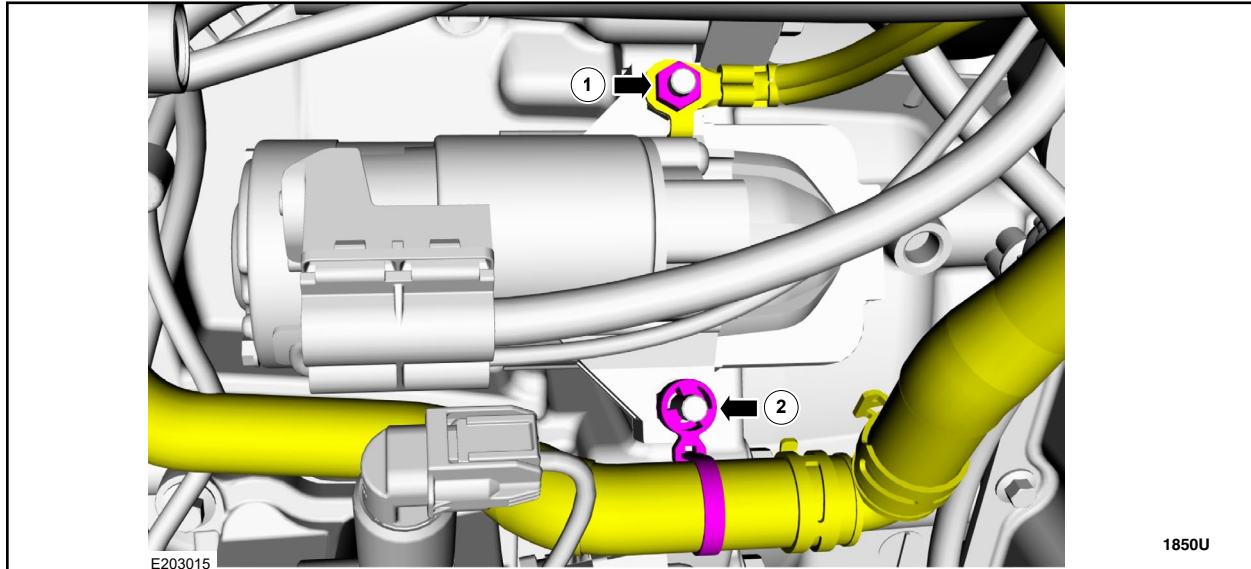

FIGURE 2
3. Remove the starter motor ground cable nut and disconnect the ground cable, detach the cooling hose retainer from the starter motor stud bolt. See Figure 2.